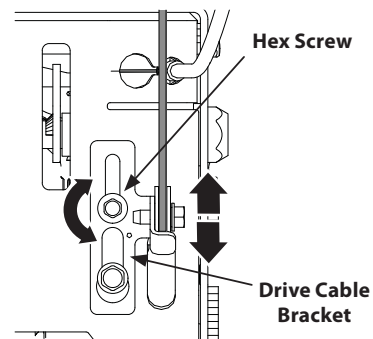

Figure 2-63
2. Loosen upper hex screw on drive cable bracket. See Figure 2-63.